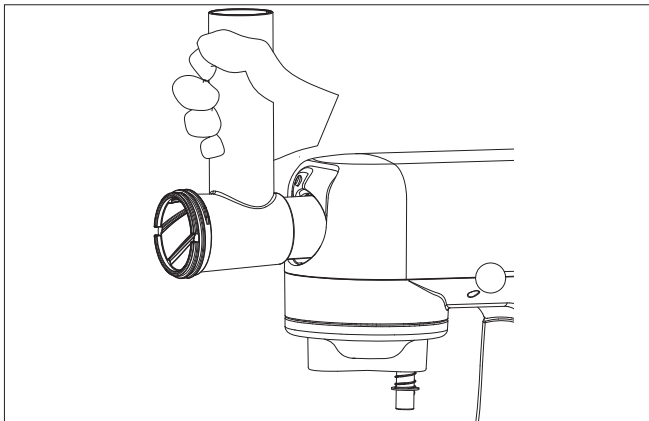

Fig. 15 – Tightening the worm housing
5. Tighten it by turning it to the left so that the filling opening is at the top (see Fig. 15). Make sure that the worm housing is seated securely in the mincer connection on the food processor.